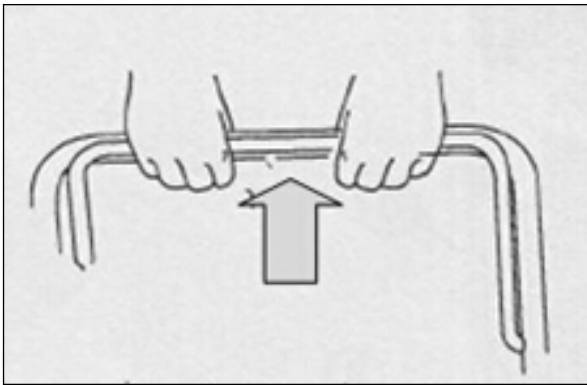

Fig 2A
b) Standing behind the unit, grasp the brake control handle and hold it against the upper handle.(Fig 2A)